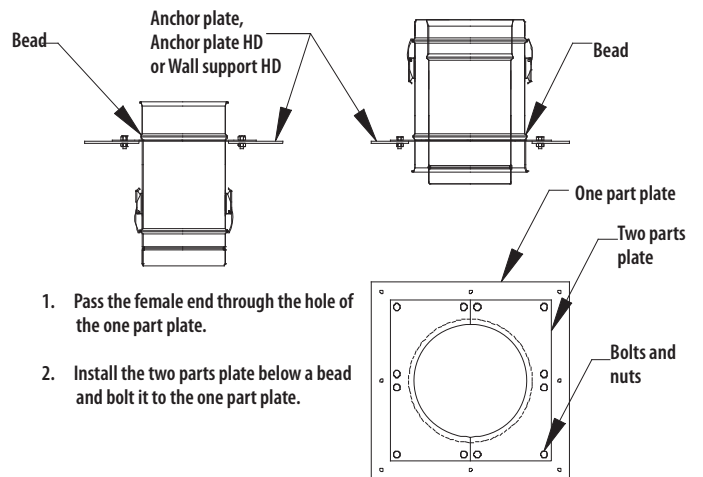

Figure 9 - Position of Support
1. For Anchor Plate (AP) / Anchor Plate Heavy Duty (APHD) / Wall Support Heavy Duty (WSHD), the support must be installed below a bead. See **Figure 9**.
2. For Wall Support (WS) / Roof Support (RS), the support can be installed anywhere on the part.